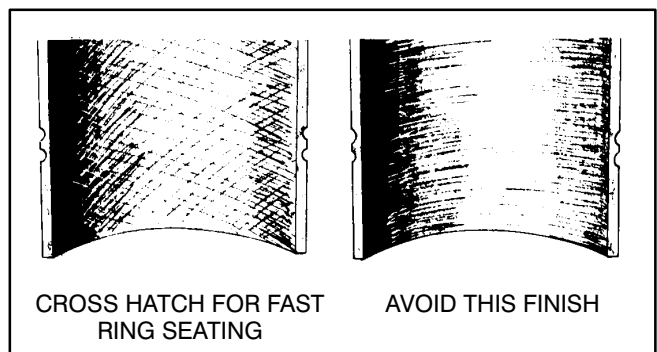

FIGURE 10-21. CROSSHATCHING
3. Drive the deglazing tool with a slow speed drill. Move the deglazing tool up and down in the cylinder rapidly enough to obtain a crosshatch pattern (Figure 10-21).